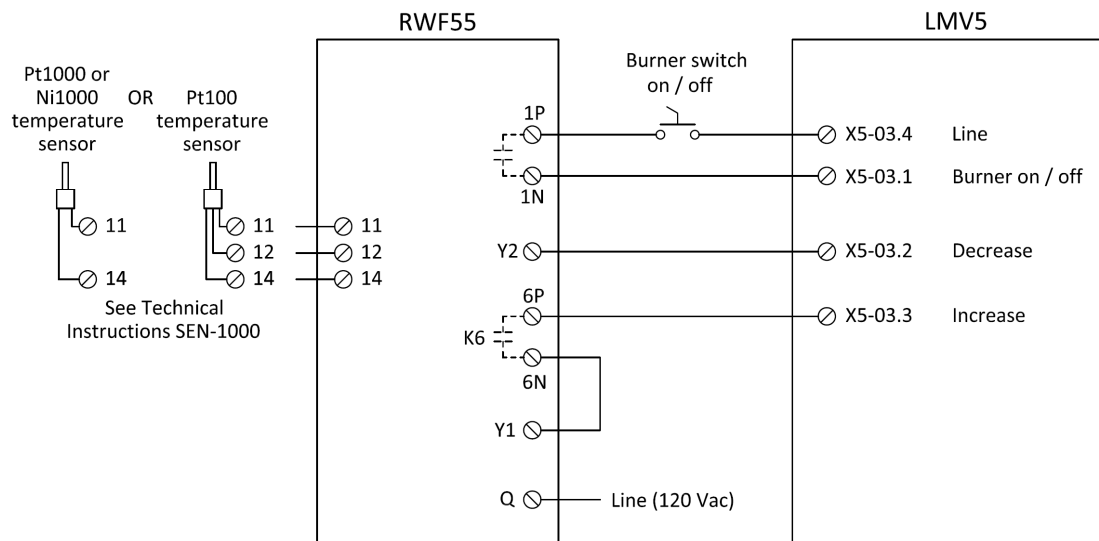

Figure 7: Low Fire Hold via 3-position Output on a Hot Water Boiler
- Wire the LMV5 and RWF55 as shown in Figure 7: